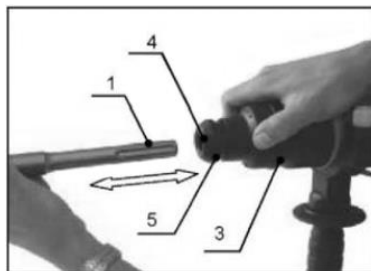

Fig. 3
2. Pull back the locking sleeve (item.2. Figure 3)
3. With the simultaneous rotation of the tool, enter the slot (Item 4. Figure 3) until it stops.
6. Check for damage dust cover (item.5. Figure 3).
To remove the tool take away the locking sleeve (Item.2. Figure 3) back and pull out the tool.